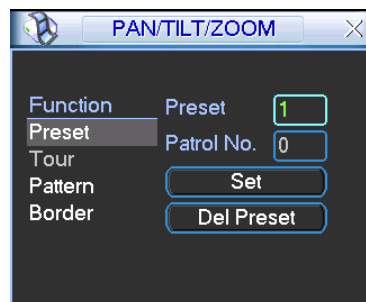
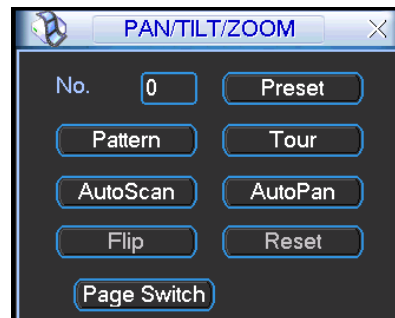

Figure 4-36
Figure 4-37
In Figure 4-33, please click the “set” button. The interface is shown as below. See Figure 4-36.
In Figure 4-33, click page switch button, the interface is shown as in Figure 4-37.
- The following setups are usually operated in the Figure 4-33, Figure 4-36 and Figure 4-37.
In Figure 4-36, click preset button and input preset number. The interface is shown as in Figure 4-38
In Figure 4-37, please input preset number in the No. blank, and click preset button.
In Figure 4-36, please click patrol button. The interface is shown as in Figure 4-39. Input preset number and add this preset to a patrol (tour). For each patrol (tour), you can input max 80 presets.
In Figure 4-37, input mode value in the No. blank, and click pattern button.
In Figure 4-36, click border button. The interface is shown as in Figure 4-41. Please go to Figure 4-33, use direction arrows to select camera left limit
In Figure 4-37, click “Auto Scan” button, the system begins auto scan. Correspondingly, the auto scan button becomes Stop button. Click stop button to terminate scan operation.
In Figure 4-37, click page switch button, you can see an interface is shown as below. See Figure 4-42. Here you can set auxiliary function. The aux value has relation ship with the Aux button of the decoder.